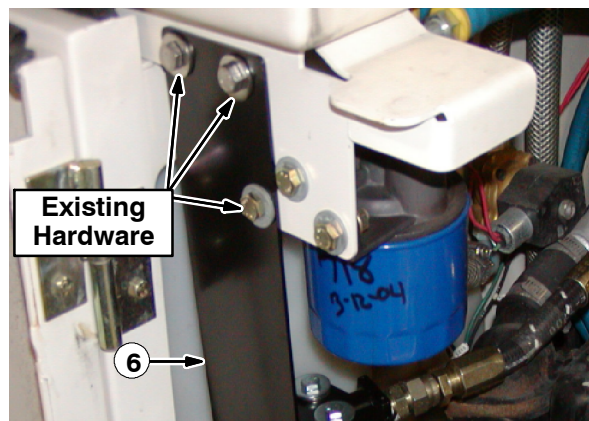

FIG. 15
35. Use existing hardware to install the LPG filter bracket (6) onto the machine. Refer to Fig. 15.